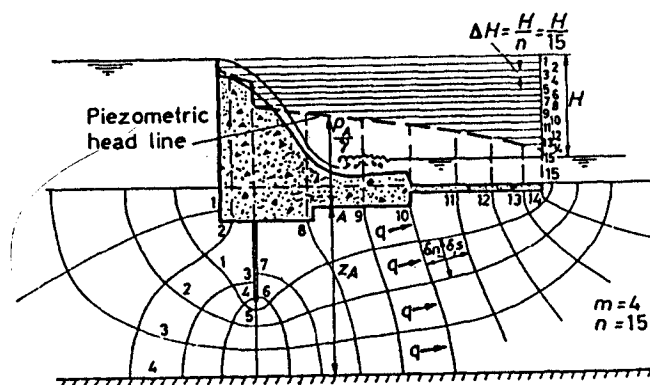

Fig. No. 1 The given flownet for the porous medium under the impervious concrete dam, the porous layer overlying a horizontal impervious layer.
- (c) Assume that the **flow net configuration**, for the transverse section of a long impervious dam set in a horizontal porous layer of granular non-cohesive material overlying a horizontal impervious boundary, as is shown in the accompanying figure No. 1;